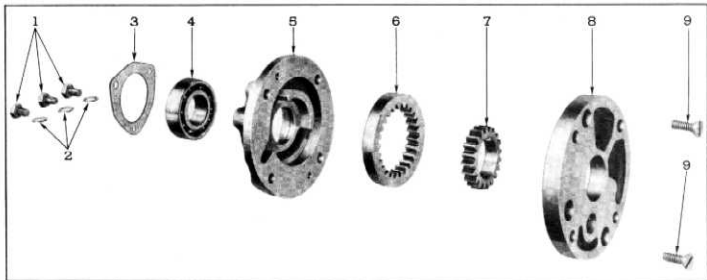

Fig. 104—Layout Rear Pump
3. Figure 104 shows layout of pump parts.